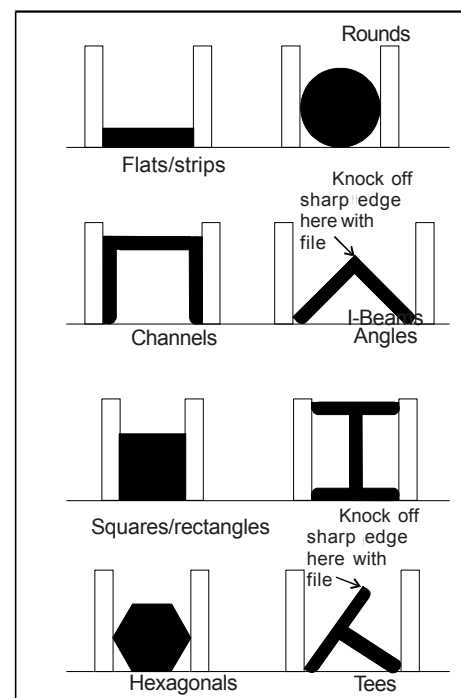

Figure 9: Placing workpieces in the vise
3. Clamp the workpiece in the vise. (See figure 9 for examples of workpieces in the vise.)